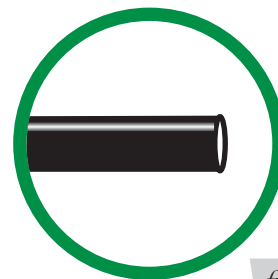

fig. 1
When cutting air lines, use a sharp knife or a hose cutter and make clean, square cuts (Fig. 1). Do not use scissors or wire cutters because these tools may deform the air line, causing it to leak around fittings. Do not cut the lines at an angle.
1. Inspect all air line connections for leaks by using a solution of 1/5 dish soap to 4/5 water. Should a leak be detected in a push-lock-fitting, reinstall the air line to the fitting. Make sure the air line is cut off squarely and that the air line is completely pushed into the fitting. (Fig. 1)